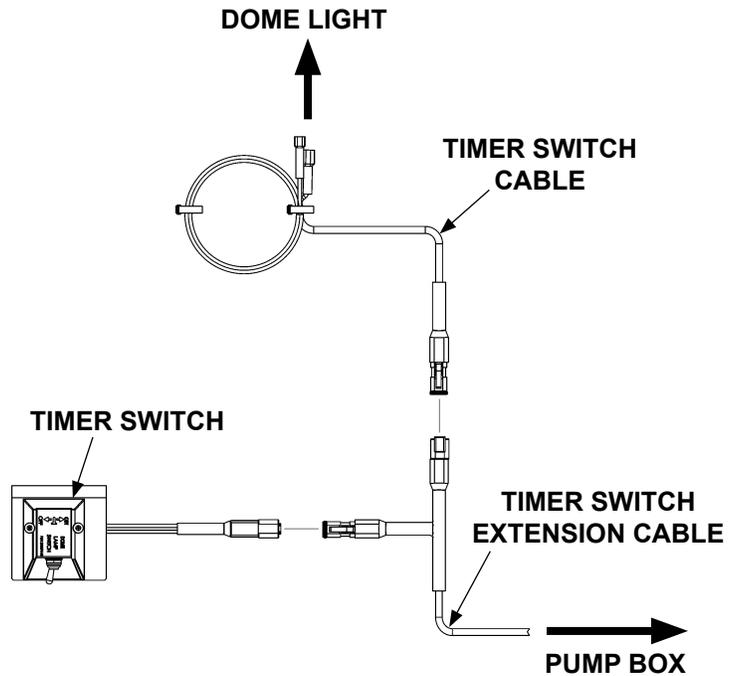

FIG. 7-1
12. Connect timer switch cable (Kit item) and timer switch to timer switch extension cable (FIG. 7-1).
13. Connect timer switch cable to dome light (FIGS. 7-1 and 7-2).